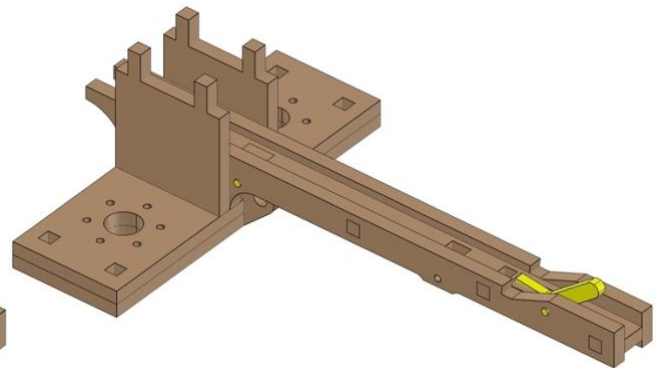

Fig. 18
- *Fig. 18* shows the completed process.